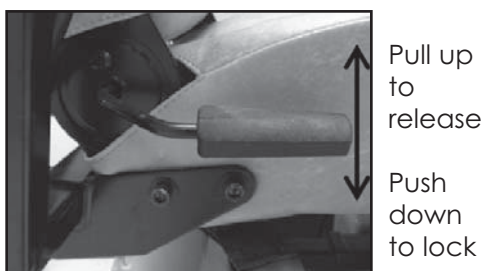

Figure 4X
3. **If your recline lever looks like FIGURE 4X** – PULL UP on the lever to release the latch. With the assistance of a caregiver, position the seatback in a comfortable position. PUSH DOWN on the lever to lock the seatback in position.